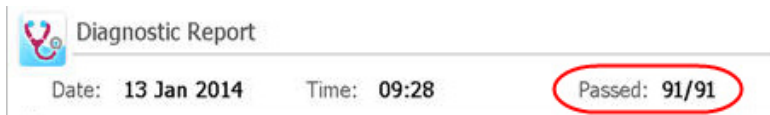

Figure 11 Diagnostic report banner, with the test results circled in red
- 9 Check the diagnostic report. The banner at the top of the report lists the number of tests that passed out of the total number of test performed (see Figure 11).